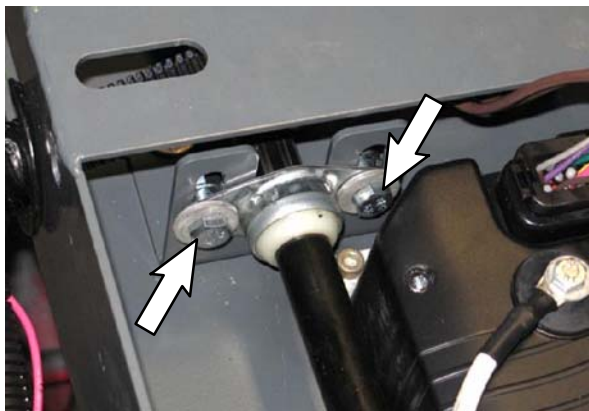

FIG. 18
17. Loosen hardware holding the flange bearing to the support bracket. **Do Not** remove the flange bearing from the support bracket. (Fig. 18)